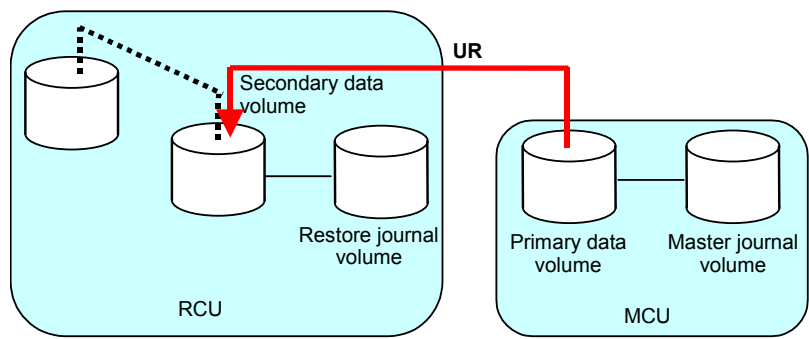

Figure 3-10 Restoring a ShadowImage P-VOL - Step 2
2. Execute the CCI **horctakeover** command on the UR pair to reverse the copy direction and re-establish the pair (see Figure 3-10).